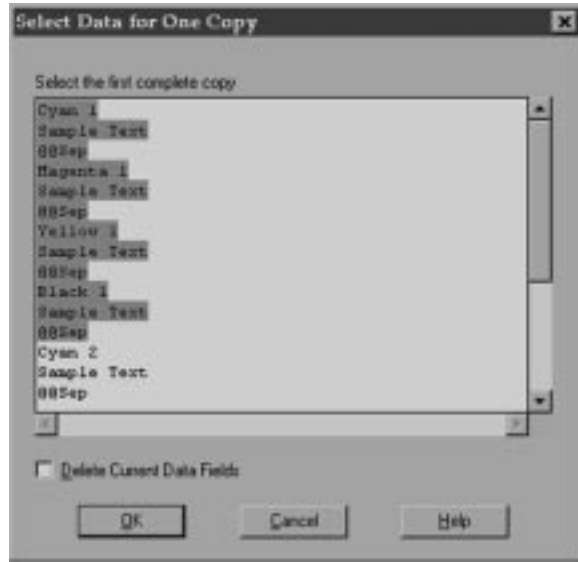

Figure 93. Select Data for One Copy Dialog
- 4 Highlight the first line up to the start of the next record, as shown for the sample file in Figure 93.